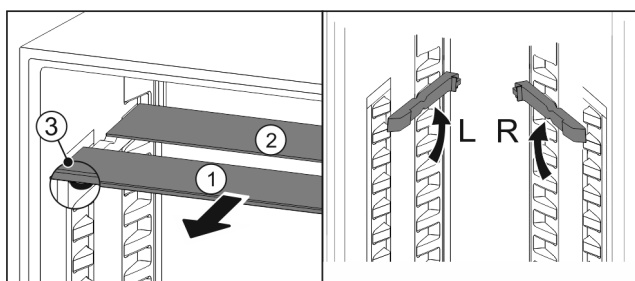

Fig. 20
- Pull the glass panels out Fig. 20 (1) from the front, one at a time.
- ▷ The glass panel Fig. 20 (1) and trim strip are at the front.
- ▷ The stops Fig. 20 (3) point down.